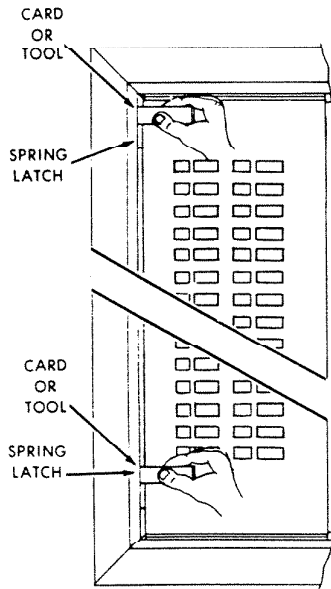

Fig. 1
Removal of 475 if located in Entrance Directory, see Fig. 1.
- (1) Insert a narrow stiff card, paper clip, narrow metal ruler or similar tool between the panel and frame of Entrance Directory pushbutton panel next to speaker panel. Push down simultaneously on top and bottom latches while applying pressure to open panels. See Fig 1 & 2.